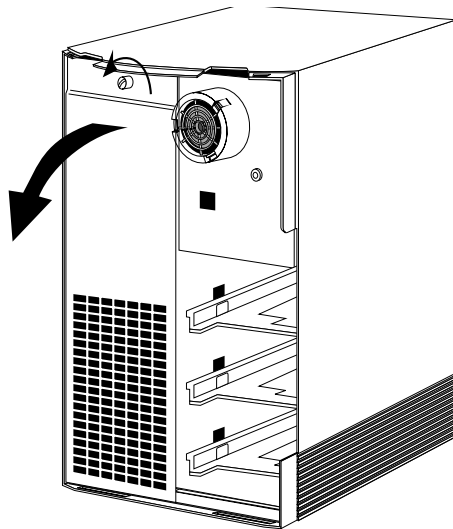

Figure 6-22 Opening the Front Metal Panel
- Loosen the panel by unscrewing the thumbscrew, as shown in Figure 6-22.